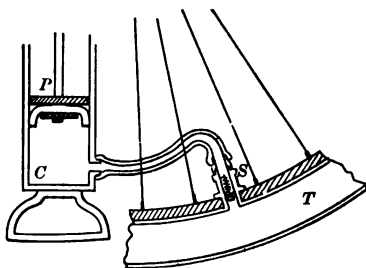

FIG. 78. — Air compressor.
**85. Air compressors.** The simplest form of air compressor is the ordinary bicycle pump, such as is used to inflate the tires on bicycles and automobiles. Figure 78 shows a sectional view of such a pump attached to a tire. It consists of a cylinder *C* and piston *P*. On the down stroke some air is entrapped below the piston and compressed, its pressure rising until it becomes equal to that of the air already in the tire. Then the valve *S* opens, and